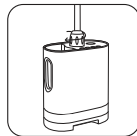

fig.7
4. Tighten the pole's fastening lock by turning in a clockwise direction until the fastener is securely in place. (fig.7)